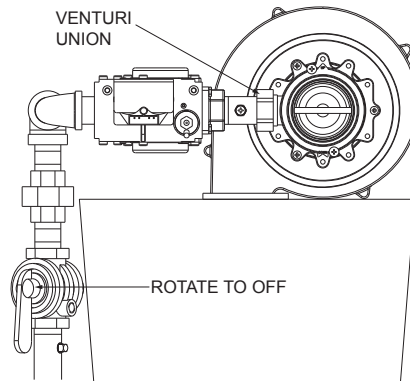

Figure 49. Shut-off Valve & Venturi Location 198AR thru 398A
1. Loosen the Venturi Union from the Manifold Nipple. See Figure 49.